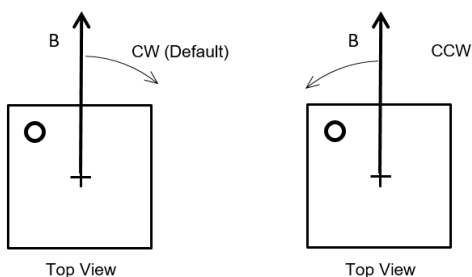

Figure 27: Positive Rotation Direction of the Magnetic Field
By default, when looking at the top of the package, the angle increases when the magnetic field rotates clockwise (CW) (see Figure 27).